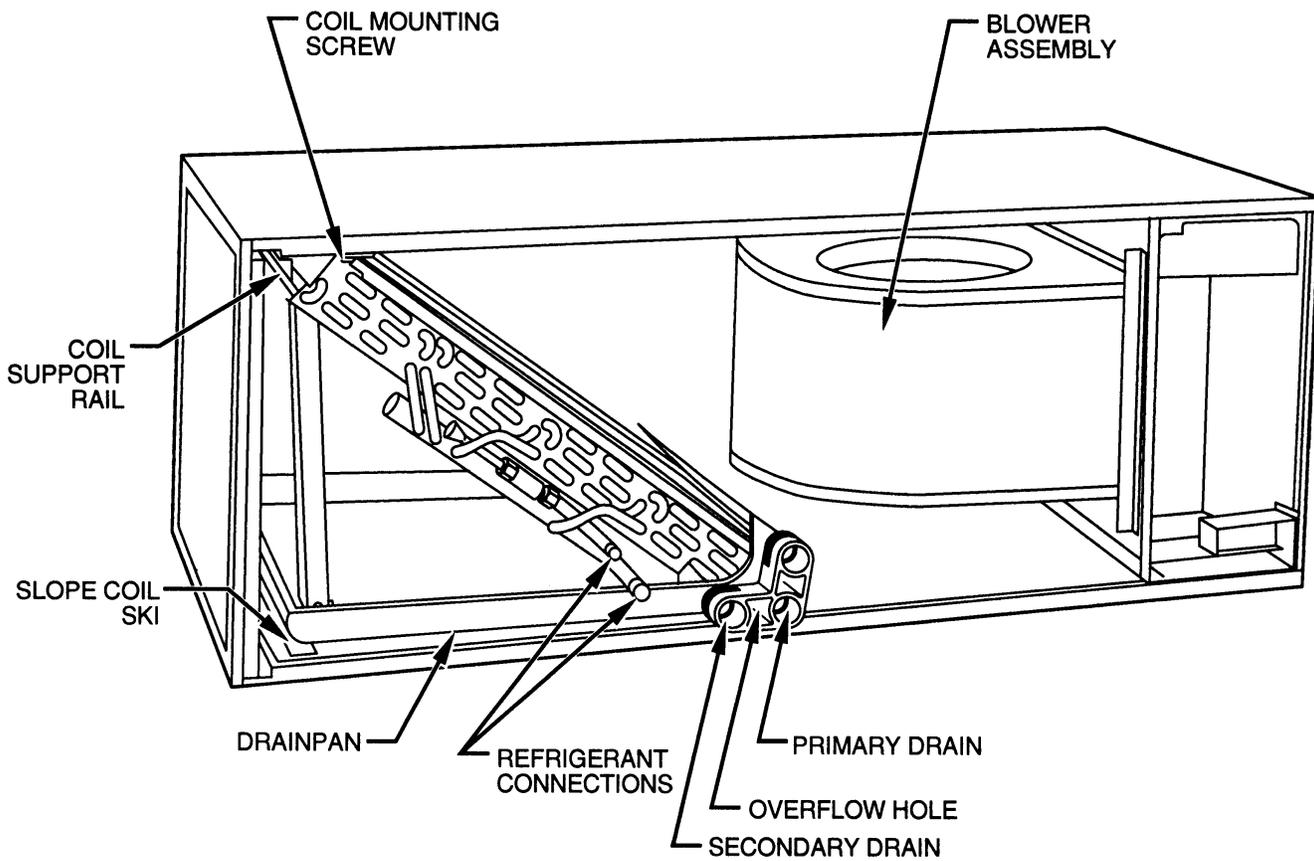

Fig. 2—Horizontal Installation of Drain Pan Kit
8. Place assembly on a flat surface. Remove 2 screws securing coil support columns to pan. (See Fig. 2 on Pg. 2)